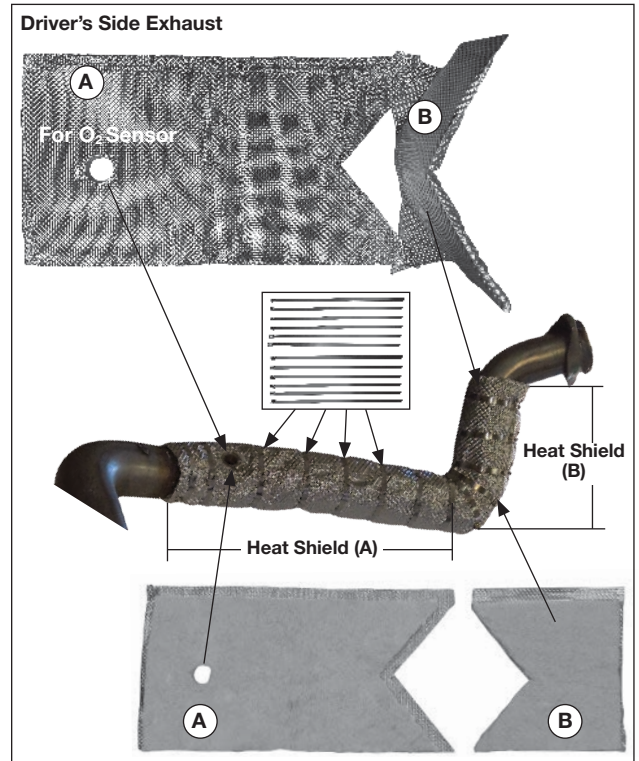

Figure 82
2. Install heat shield (A) with the hole over the O2 sensor.
5. Install (8) clamps as shown in (Fig. 82).
1. Install piece (B) on the downward bend of the exhaust pipe adjacent to heat shield (A).
2. Lap ears of heat shield (B) over the ears of heat shield (A).
3. Seam of heat shield (B) should be facing forward of the truck.
4. Install (4) clamps as shown in (Fig. 82).